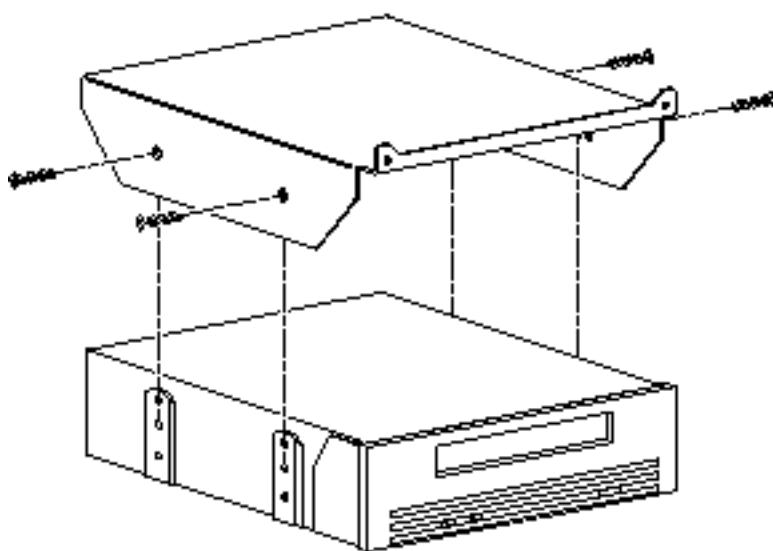

Figure 2-9 Installing the Mounting Bracket on the Tape Drive
- 7. Install the four flat-head phillips screws to secure the mounting bracket to the tape drive (Figure 2-9).**
5. Remove the four phillips screws securing the mounting bracket to the tape drive (Figure 2-9).